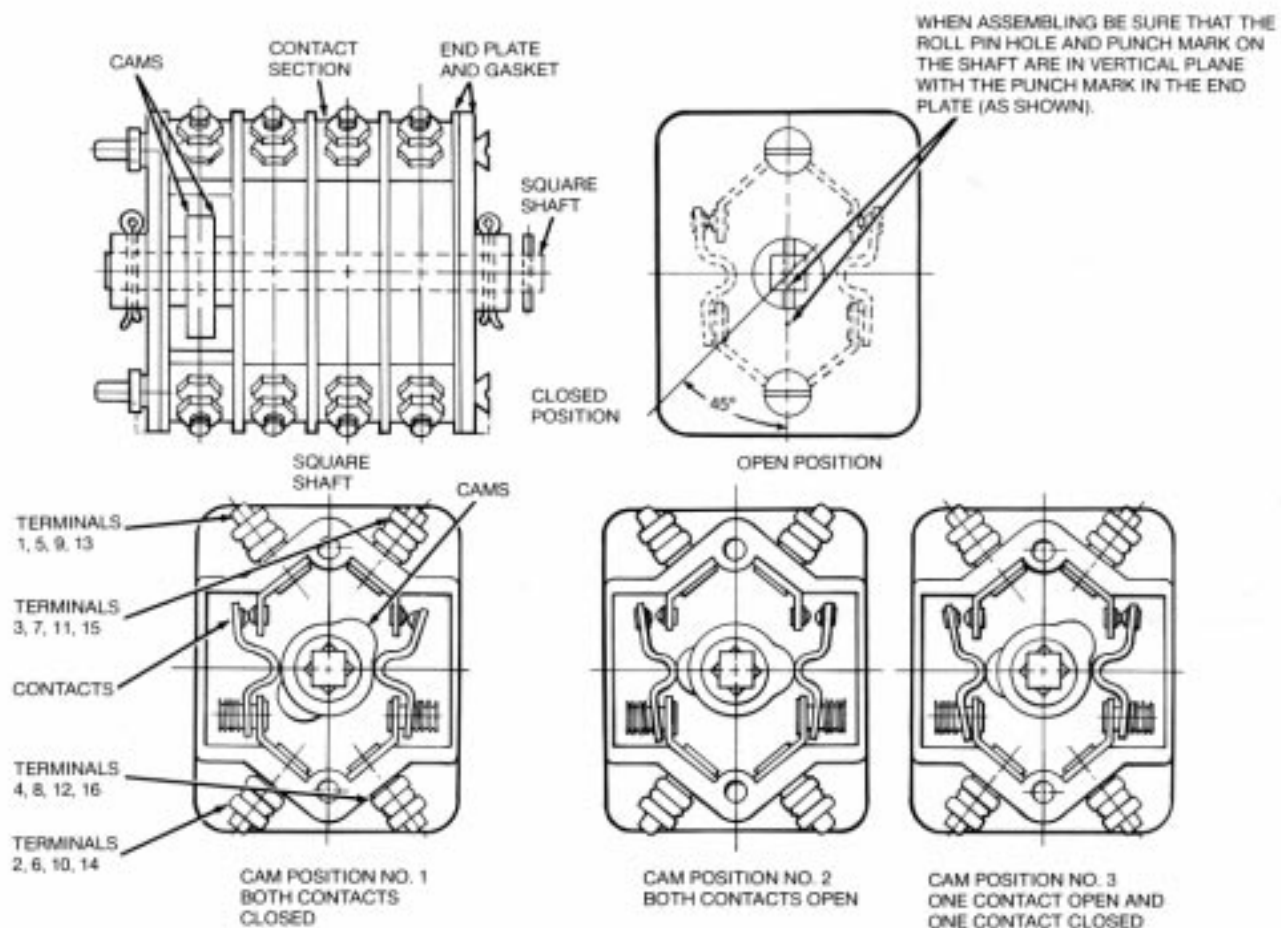

Figure 21.
5. Starting with the rear switch section, lift the cams off the operating shaft, replacing the cams in one of the positions shown in Figure 21.